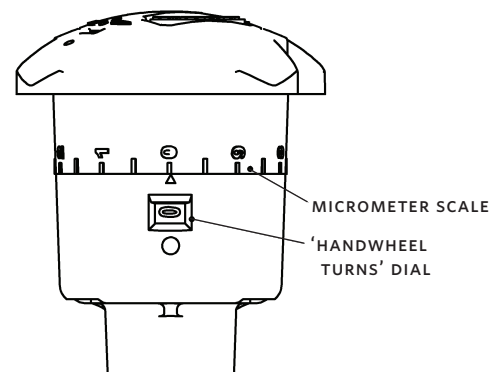
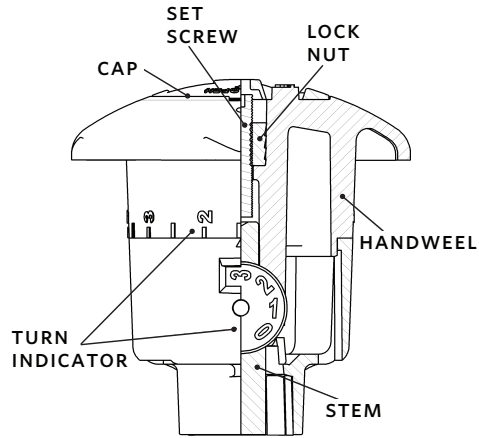

FIG. 3: CBV setting of 0.0 indicates that the valve is closed. Both the handwheel turns dial and the micrometer scale indicate a valve position reading of 0.
FIG. 6
- **'Handwheel turns' dial:** This dial is printed on the outer surface of a gearing mechanism located inside the lower half of the handle assembly (**FIG. 6**). Each complete 360° revolution of the handwheel is visible through a display window and is scaled 0 - 5 to indicate the valve position in terms of the number of full turns. (**FIG. 3**)
- **Micrometer scale:** This scale is marked 0 - 9 and is located on the upper half of the handle assembly. Each mark represents $\frac{1}{10}$ th of a full, 360° turn of opening when lined up with an arrowhead symbol, located above the handwheel turns display window. (**FIG. 3**)
- 17 Insert a 2.5 mm (or 3/32") Allen key through the hole provided in the valve's handle cap. (FIG. 6)